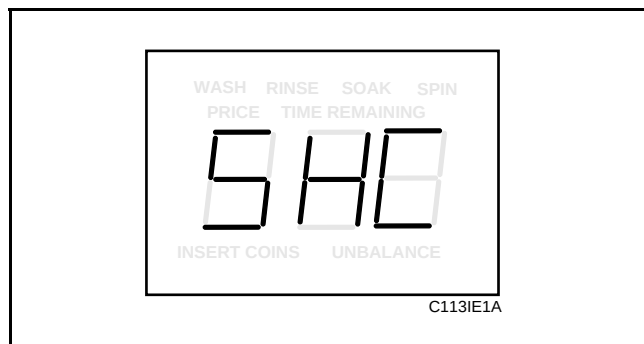

Figure 26
3. Press the DELICATES (+) pad or the COLD (-) pad to scroll through the programmable options until “SHC” appears in the VFD. See **Figure 26**.